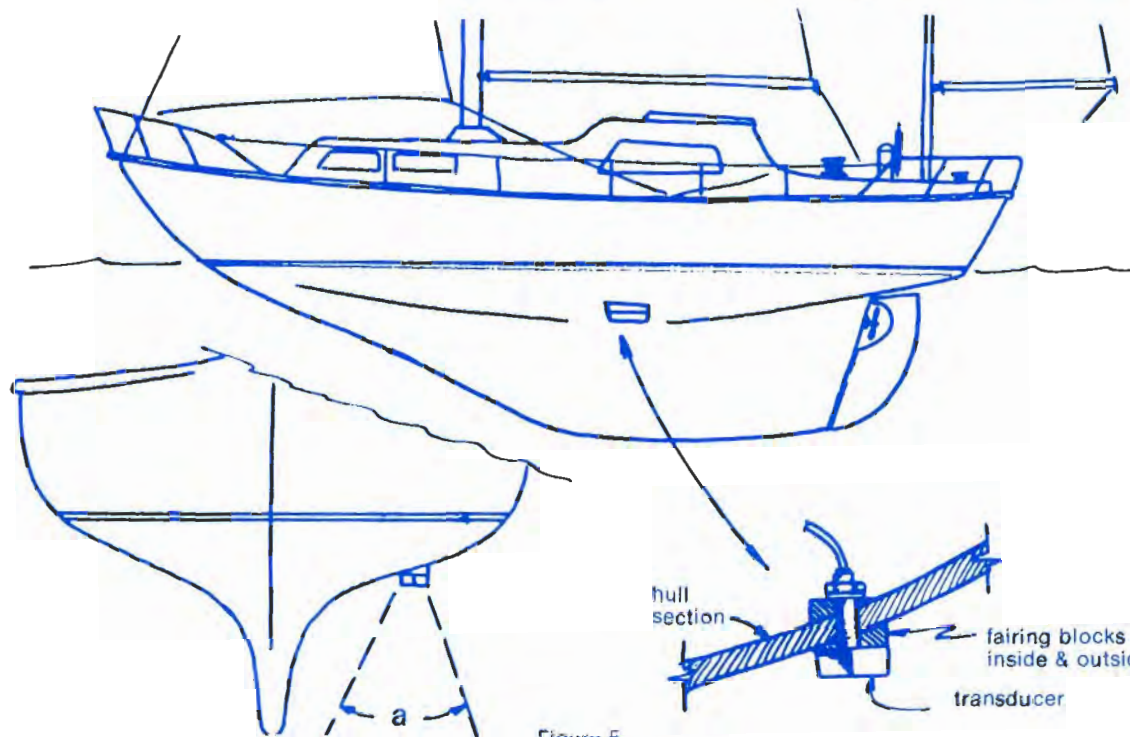

Figure 5
- B. A-104 bronze stem-type: If the low-profile, flush transducer is unsuitable for installation, the A-104 stem-type transducer may be substituted. This transducer requires a small diameter hole through the hull and leveling blocks. This transducer may also be recessed into the stem of the boat, (see Figures 5 and 6)